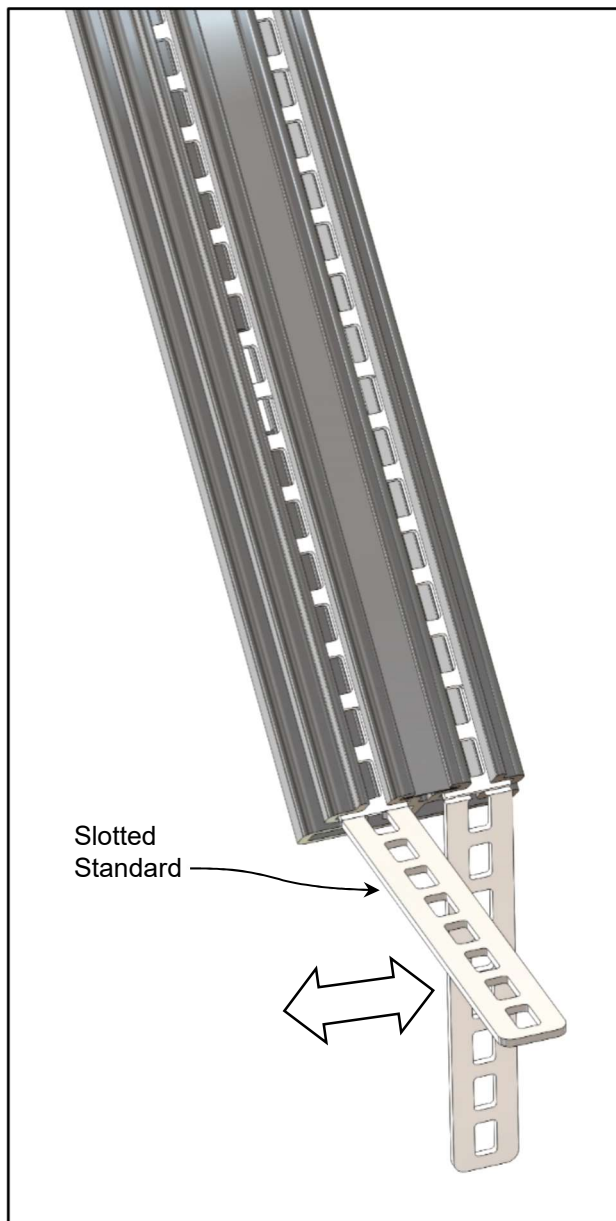

Figure 5
5. Shorten the Slotted Standard by bending and snapping off at the groove (See Figure 5).